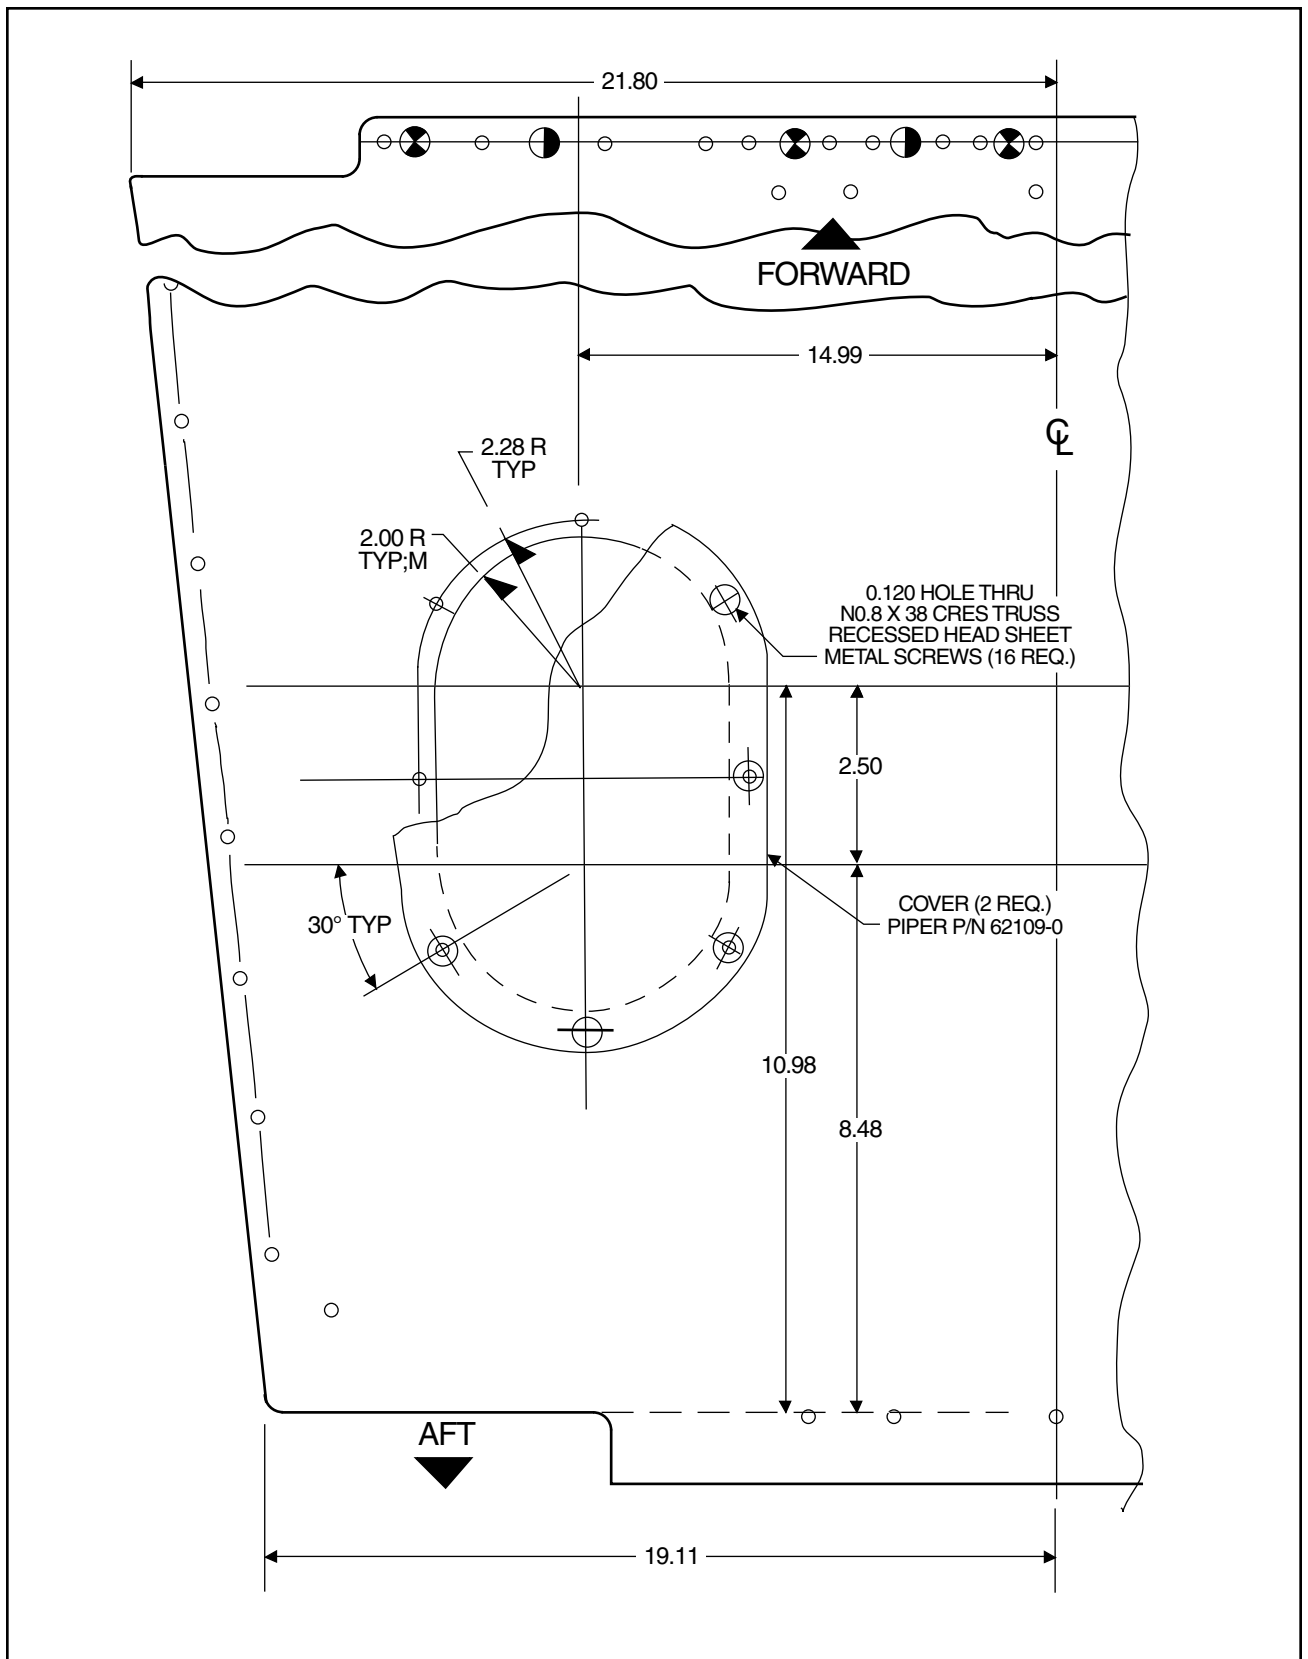

Figure 4-13. Baggage Compartment Inspection Holes Cutout Details
### 4-56. BAGGAGE COMPARTMENT INSPECTION HOLES FABRICATION PROCEDURE. (Refer to Figure 4-13)
While Figure 4-13 shows the hole in the left side of the baggage compartment, a similar hole is also cut out in the right side baggage compartment floor. Installation will require two each inspection access covers, Piper P/N 62109-0.
- c Determine and mark a reference center line running through baggage compartment. Refer to Figure 4-13 for measurements.
- g Using the intersection of the lines constructed in step (6) with each hole's centerline as the center, scribe an arc having a radius of 2.00"
- h Draw a line (four lines total) tangent to the each side of the arcs constructed on step (7).
- i There should now be two ovals, like the one in Figure 4-13 laid out on each side of the baggage compartment floor.